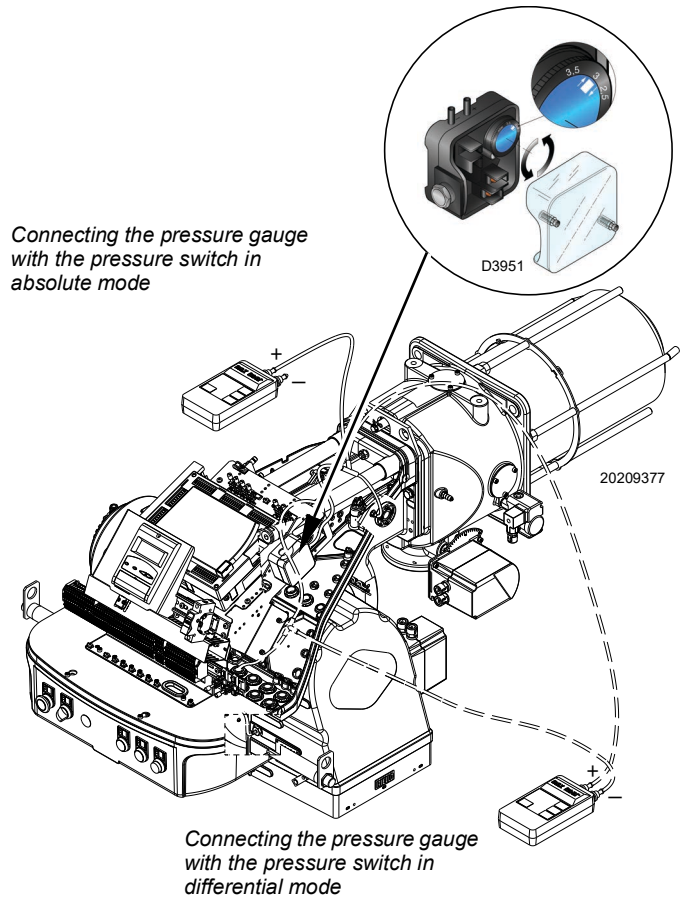

Fig. 34
- Adjust the air pressure switch (Fig. 34 on page 36) to the start of the scale.
Adjust the air pressure switch (Fig. 34) after having performed all other burner adjustments with the air pressure switch set to the start of the scale.
The connection of the pressure gauge is shown in Fig. 34. The standard configuration is that with the air pressure switch connected in absolute mode. Note the presence of a "T" connection, not supplied.
In this case also, the pressure gauge must be connected in differential mode, as shown in Fig. 34.